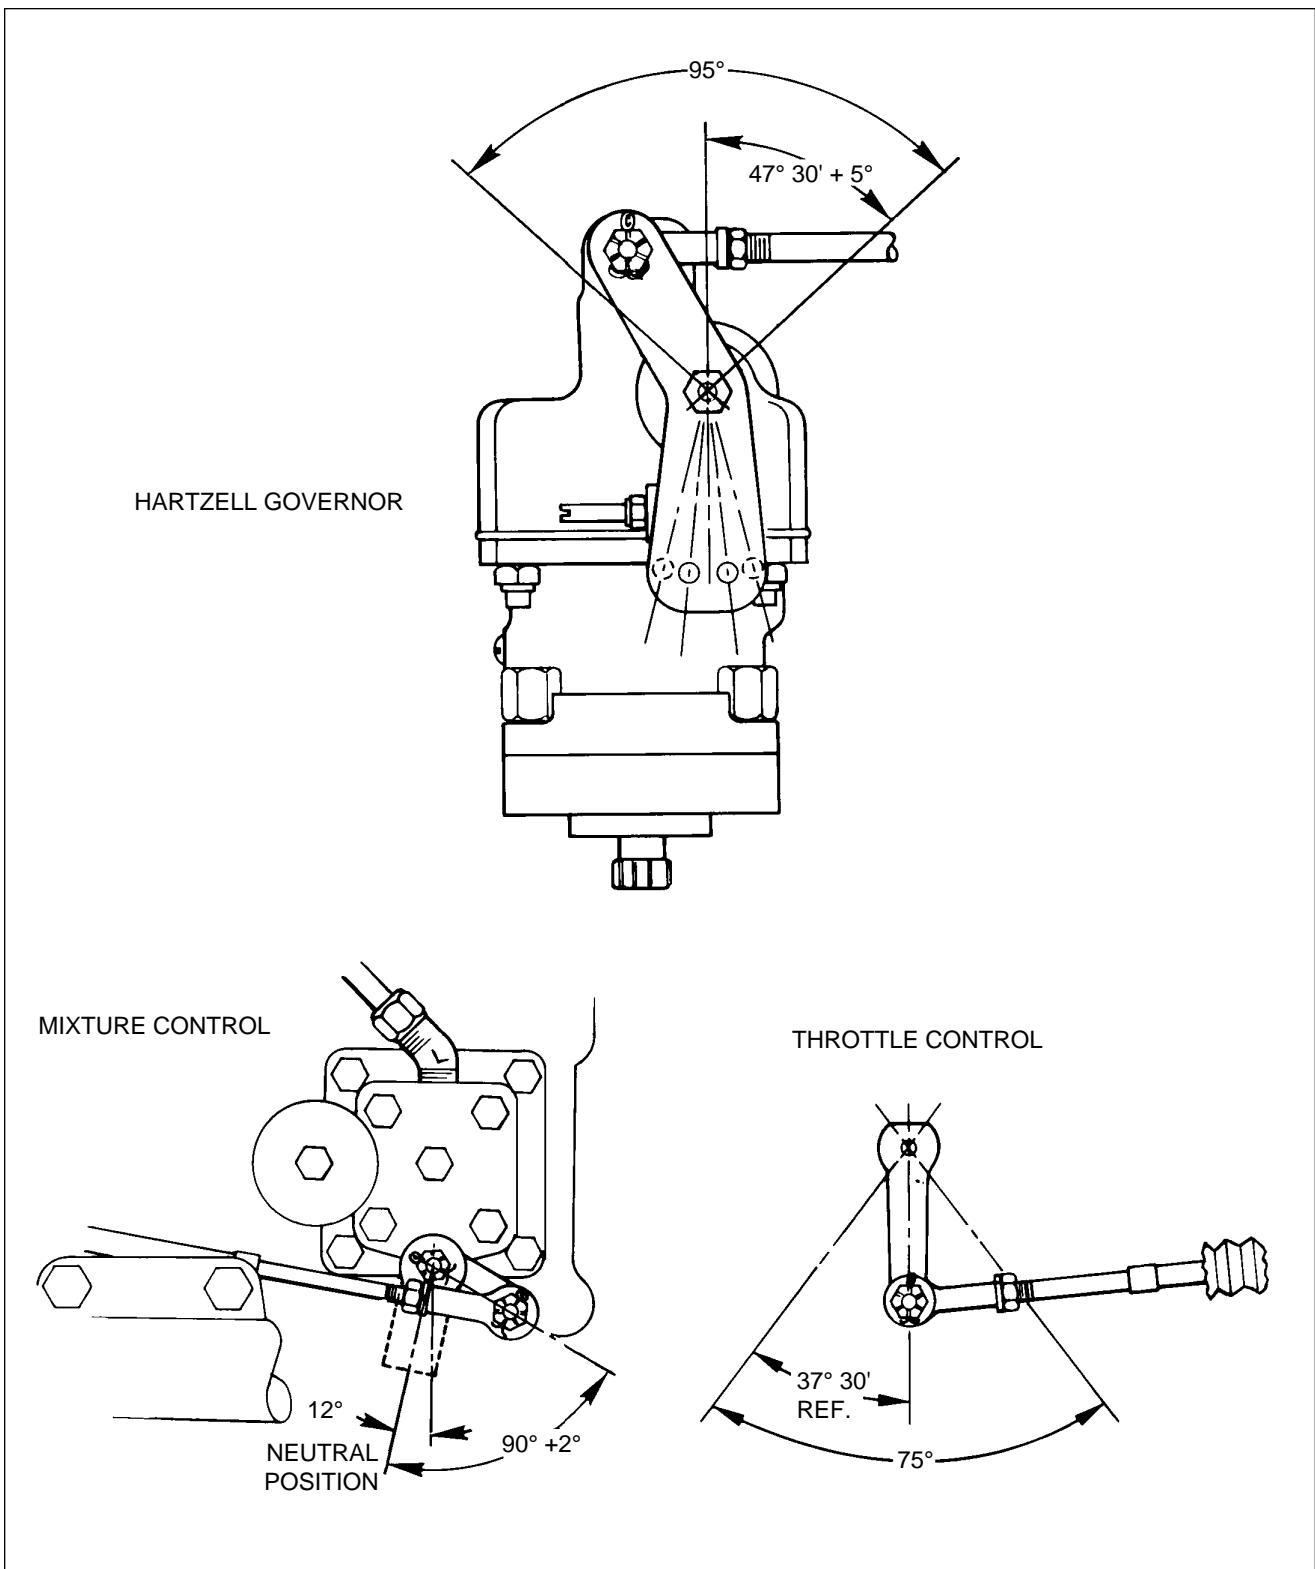

Figure 76-1. Engine Controls
RIGGING OF THROTTLE CONTROLS (Refer to Figure 76-1)
RIGGING OF PROPELLER CONTROLS (Refer to Figure 76-1)
3. Refer to Figure 76-1 and check the travel of the control arm. The Hartzell governor must meet the 95° travel requirement.
RIGGING OF MIXTURE CONTROLS (Refer to Figure 76-1)
3. Move or ensure the arm is to its full rich (full travel) position. Refer to Figure 76-1 for arm travel specifications.